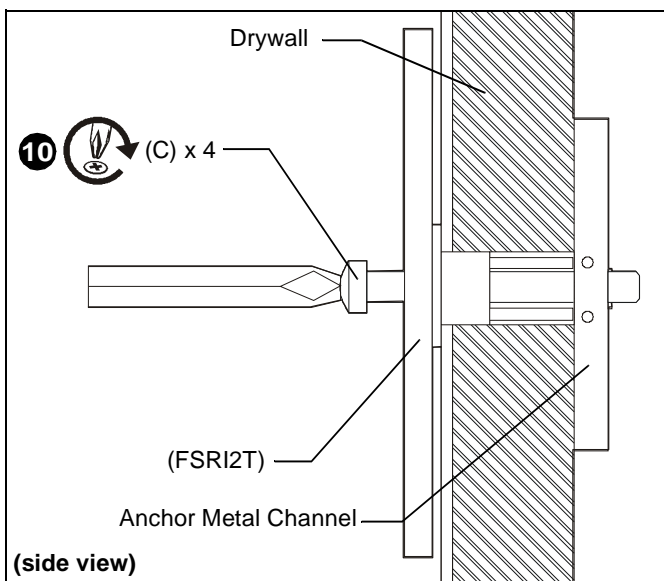

Figure 6
9. Place FSRI2T over anchors and align mounting holes in FSRI2T with holes in anchors. (See Figure 6)
10. Insert 1/4-20 x 1-3/4" Phillips pan head screw (C) through corresponding mounting hole on FSRI2T, into toggler anchor (E) and tighten until flush against mount. DO NOT overtighten! (See Figure 6)